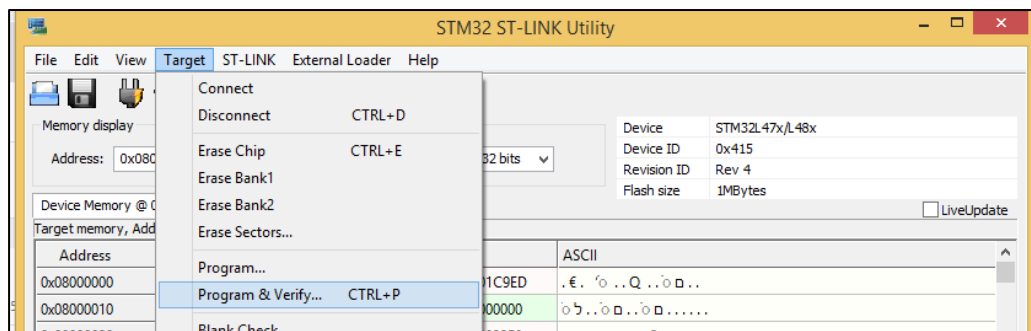

Figure 32. Program & Verify in STM32 ST-LINK Utility
9. Click on **Target** → **Program & Verify** (Figure 32).